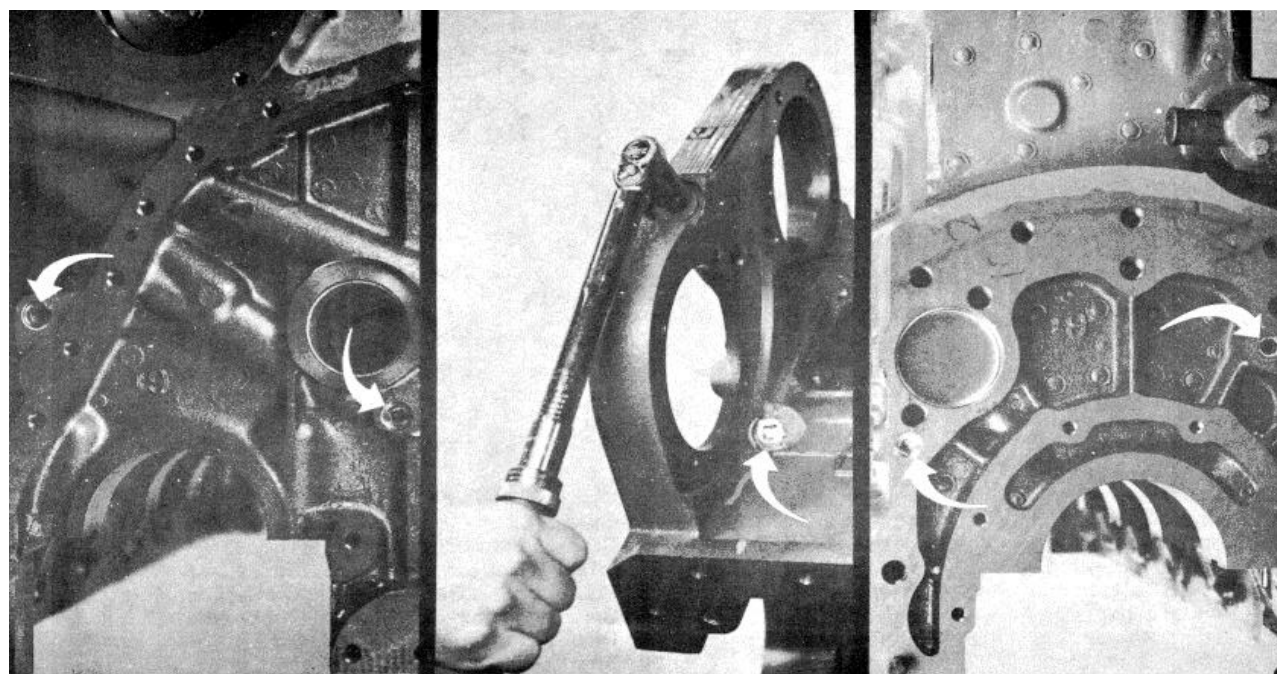

Fig. 14-1 (N114239). Install The Pipe Plugs.
2. Install the pipe plugs into the cylinder block, Fig. 14-1. Tighten the pipe plugs to the torque values listed in Table 1.